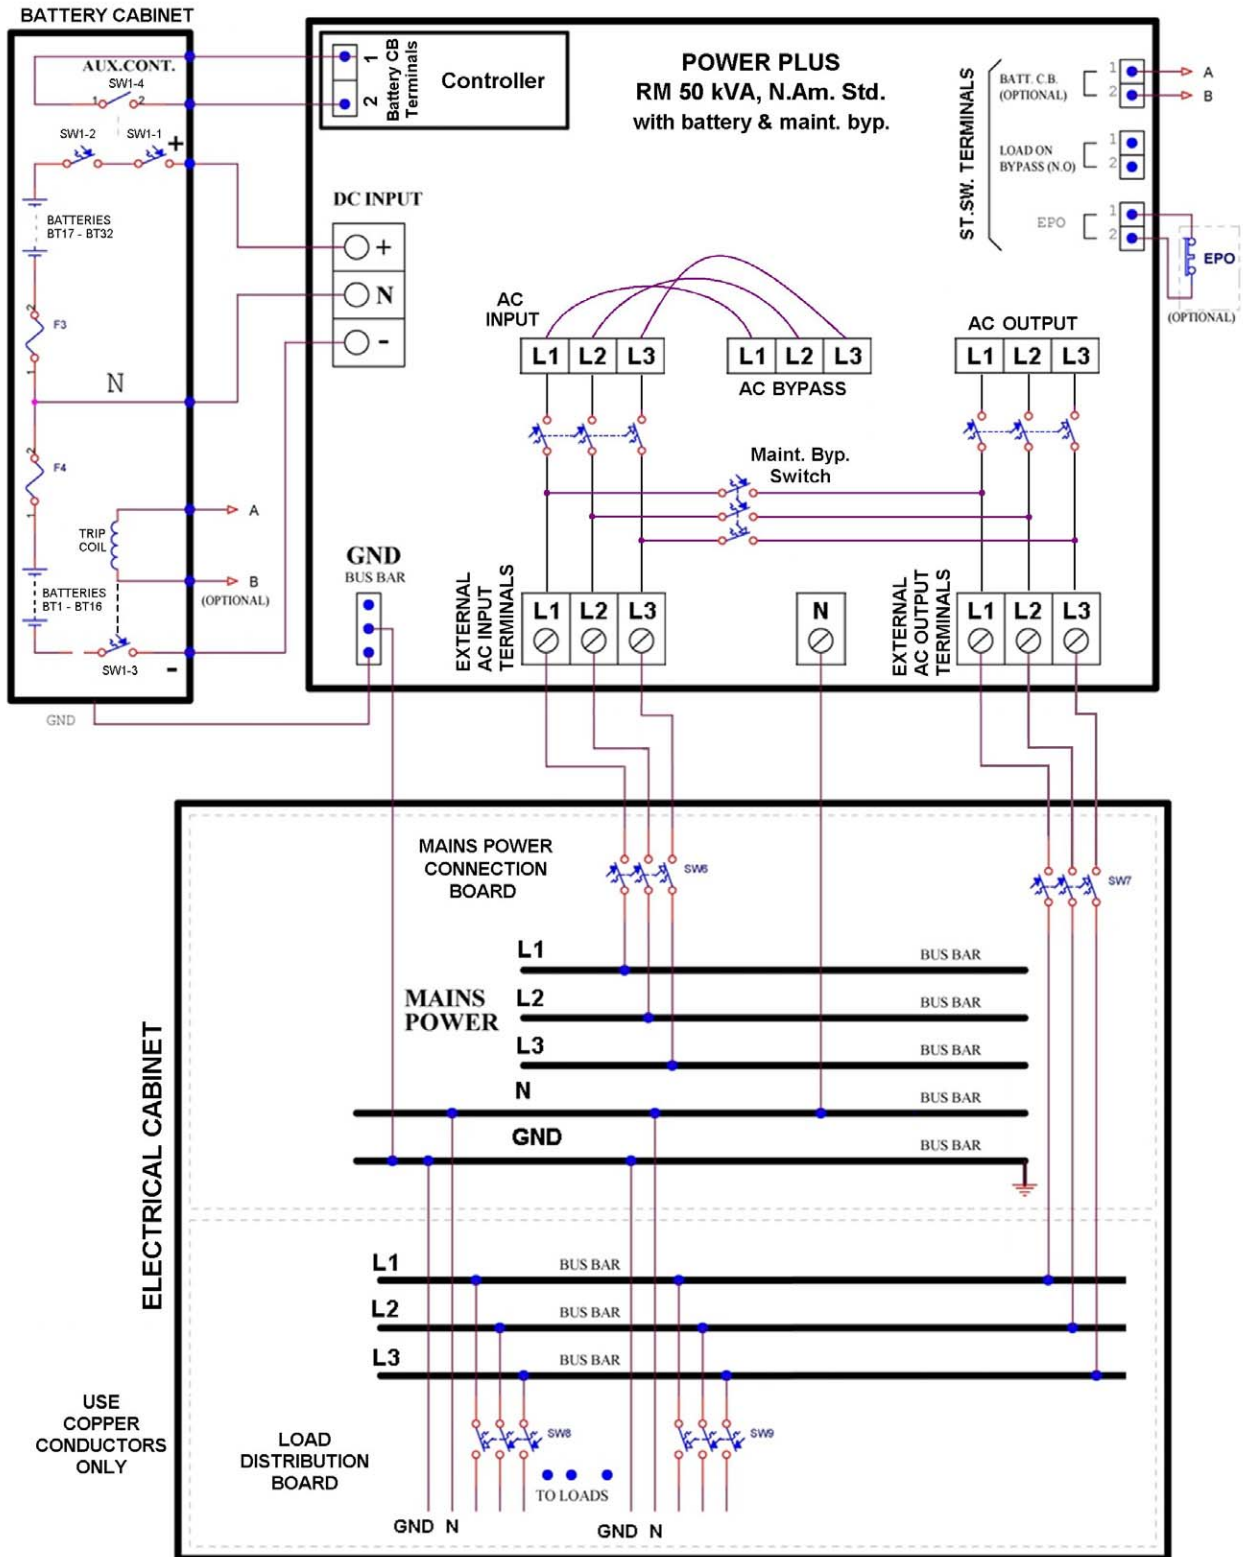

Figure 7: Connection diagram
2.	Connect ground lines to busses according to markings as shown in the connection diagram (Figure 7 on page 21). Verify secure connections.